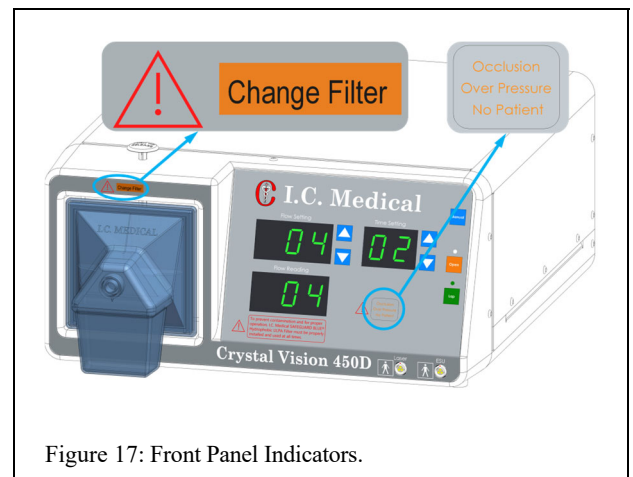

Figure 17: Front Panel Indicators.
10. CHANGE FILTER indicator is located above filter (Fig. 17). It illuminates when there is a reduced flow into the CRYSTAL VISION®. The **SAFEGUARD BLUE®** Hydrophobic ULPA Filter with Built-in Fluid Trap should be changed when this light first illuminates. Do not attempt to clean, or re-use the **SAFEGUARD BLUE®** Hydrophobic ULPA Filter with Built-in Fluid Trap. Dispose of the **SAFEGUARD BLUE®** Hydrophobic ULPA Filter with Built-in Fluid Trap according to your institution's biological waste protocol. This indicator will also come ON when there is a total occlusion. If the OCCLUSION indicator is also lit, be sure to clear the obstruction that caused it first and then check the CHANGE FILTER indicator. If it is still illuminated and the OCCLUSION indicator is not, then the **SAFEGUARD BLUE®** Hydrophobic ULPA Filter with Built-in Fluid Trap needs to be changed.
11. OCCLUSION indicates that flow into the CRYSTAL VISION® has stopped (Figure 17). The CHANGE FILTER light will also come ON at this time. The operator should check for kinked tubing, stopcocks that are turned OFF, clogged insufflator, use by date of Large Coconut Charcoal Output Filter, or a completely clogged **SAFEGUARD BLUE®** Hydrophobic ULPA Filter with Built-in Fluid Trap. In order to prevent pump failure, the CRYSTAL VISION® pump will not activate when this lamp is illuminated.
12. OVER PRESSURE indicates pressure exceeding 27 mmHg in the pneumoperitoneum (Figure 17). At pressures over 30 mmHg, the vacuum pump starts in order to reduce the pressure in the pneumoperitoneum. This situation can be caused by many factors. Frequently, the surgeon presses on the abdomen and this causes intra-abdominal pressure to rise. Correct the cause before continuing.
13. The "NO PATIENT" indicator (Figure 17) turns on when the CRYSTAL VISION® is in the LAP MODE, when zero pressure, or atmospheric pressure, is present at the **SAFEGUARD BLUE®** Hydrophobic ULPA Filter with Built-in Fluid Trap. The tubing set may not be connected to the Trocar sheath or to the **SAFEGUARD BLUE®** Hydrophobic ULPA Filter with Built-in Fluid Trap; the valve on the Trocar sheath may be turned off; or the **SAFEGUARD BLUE®** Hydrophobic ULPA Filter with Built-in Fluid Trap may not be attached to the **SAFEGUARD BLUE®** Hydrophobic ULPA Filter with Built-in Fluid Trap connector.